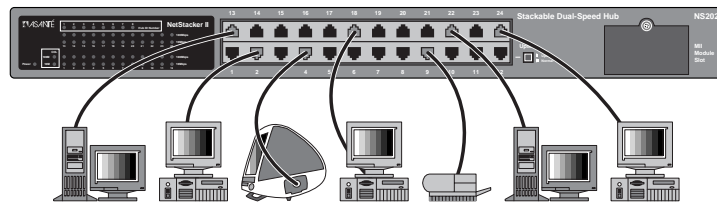

Figure 2-8 Connecting network devices
- 4 Continue connecting workstations, servers, or other devices to the hub using UTP cables to create a network as shown in the example in Figure 2-8.